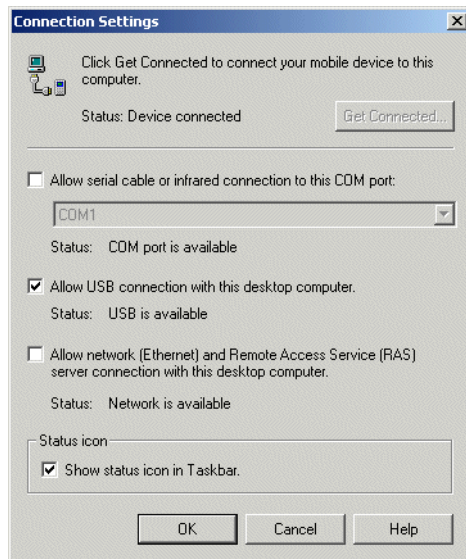

Figure 4-13. USB Connection Settings
7. In the *ActiveSync* window, select *File - Connection Settings* and ensure the selections shown in Figure 4-13 are made. Select *USB* port for the host computer.)